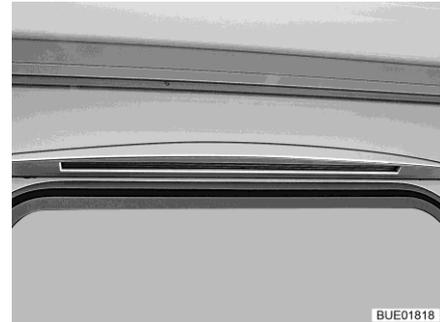

Fig. 67 Awning light (not when equipped with awning)
- Awning lighting (Fig. 67) (partially special equipment) (not when equipped with awning)